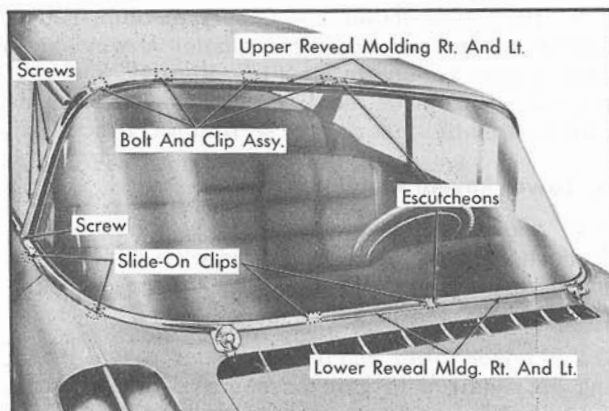

Fig. 17-2 Windshield Reveal Molding Attachment
2. On outside of body, carefully slide upper escutcheon, Fig. 17-2, over either of the moldings.
2. Loosen lower end of each upper reveal molding as required to gain access to screw securing outer end of each lower reveal molding, Fig. 17-2, and remove screw.
4. Open front door and remove exposed screw, securing lower reveal molding outer clip, Fig. 17-2.